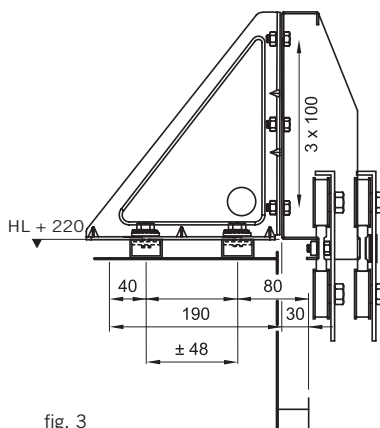

fig. 3
- 4° Let 30mm. between the front part of the cabin and the outside of the operator regulated with the brackets (fig. 3).